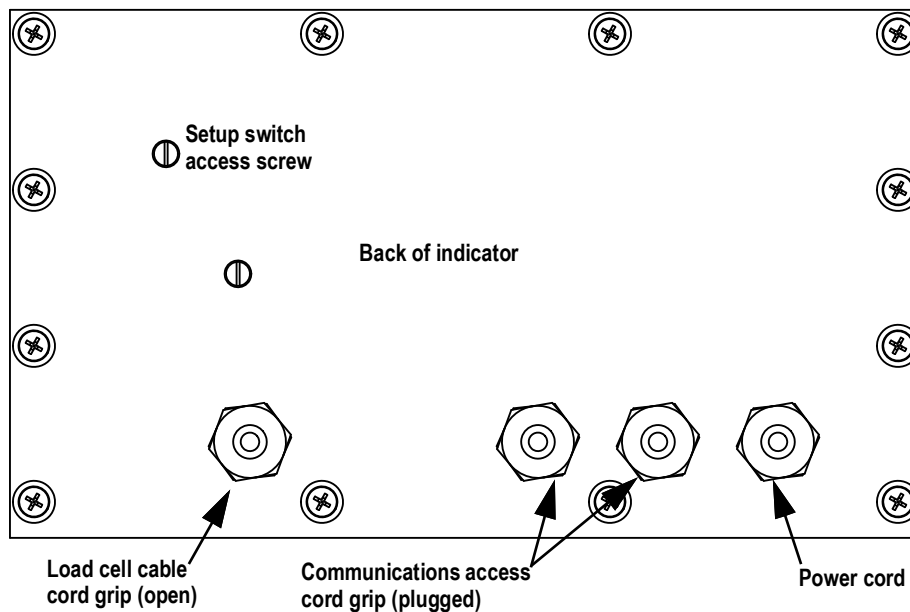

Figure 2-1. Recommended Cord Grip Assignments
1. Remove the setup switch access screw from the back of the enclosure, See Figure 2-1 on page 11.
The 482 provides four cord grips for cabling into the indicator: one for the power cord, three to accommodate load cell, communications, digital inputs and outputs, and analog output cables. Two of the three free cord grips come with a plug installed to prevent moisture from entering the enclosure. Depending on the application, remove the plug from another cord grip that will be used and install cables as required, See Figure 2-1 for the recommended assignments for the 482 cord grips.